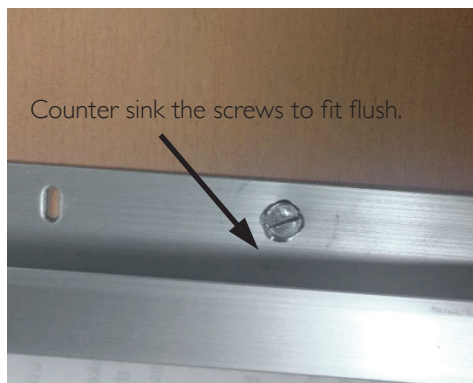
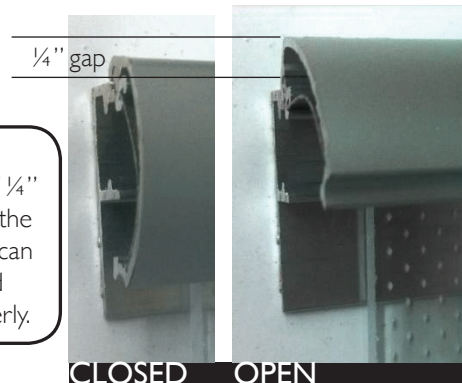

Figure 1
Figure 2
1. Cut the moulding to the proper size and attach it to the wall (find studs on the wall for this). Insure that the screws used do not protrude but are as flat as possible. **(See figure 1)** **NOTE:** If using a snap frame make sure to allow a minimum ¼ inch gap above the moulding so the moulding can open and close properly. **(See figure 2).**